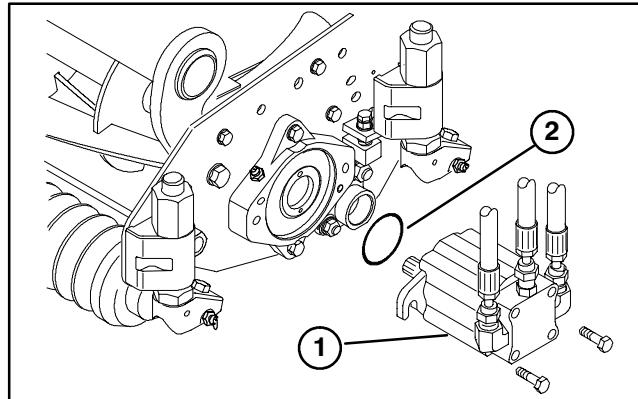

Figure 9
- 3. Cutting unit stabilizer ear (2)
14. Mount the motor to the drive end of the cutting unit and secure with two capscrews provided (Fig. 9).